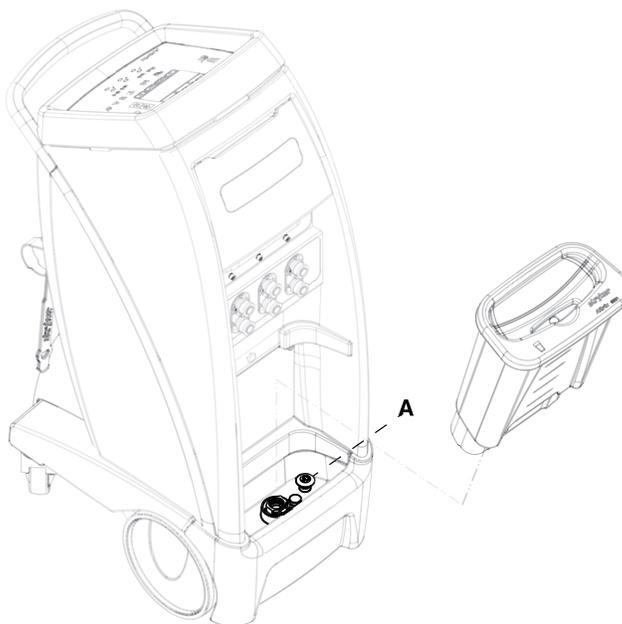

Figure 20: Drain plug
2. Remove the reservoir and pull up on the controller drain plug (A) to open the drain (Figure 20 on page 34).